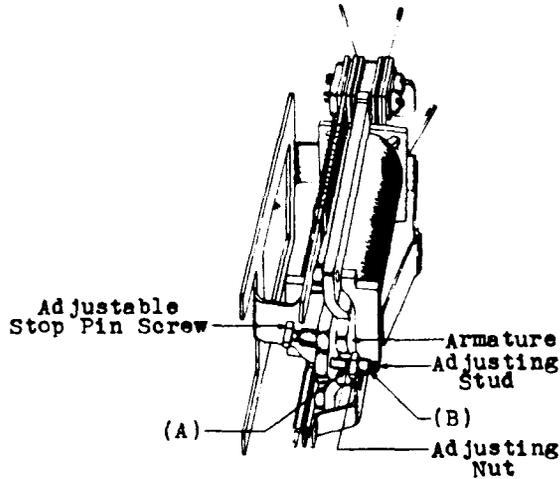

Fig. 3
2.08 Adjusting Stud Clearance - Fig. 3 (A) -
2.09 Adjusting Nut Tightness - Fig. 3 (B) -